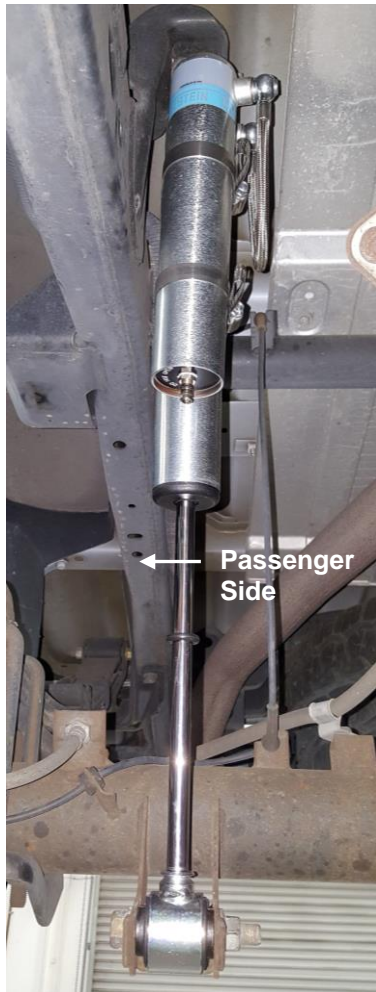

Figure 3. Passenger Side
- B. Before installing the shock/reservoir assemblies on the vehicle, use the supplied "piggyback" hardware to mount each reservoir to its shock body. Each reservoir is mounted using two polyurethane isolator blocks and two steel hose clamps. Position reservoir for driver side as depicted in Figures 1 and 2. Position reservoir for passenger side as depicted in Figures 3 and 4. Ensure the hose is not rubbing against the shock tube in the static position. The hose fittings are designed to swivel and will allow the reservoir and hose to be easily moved.